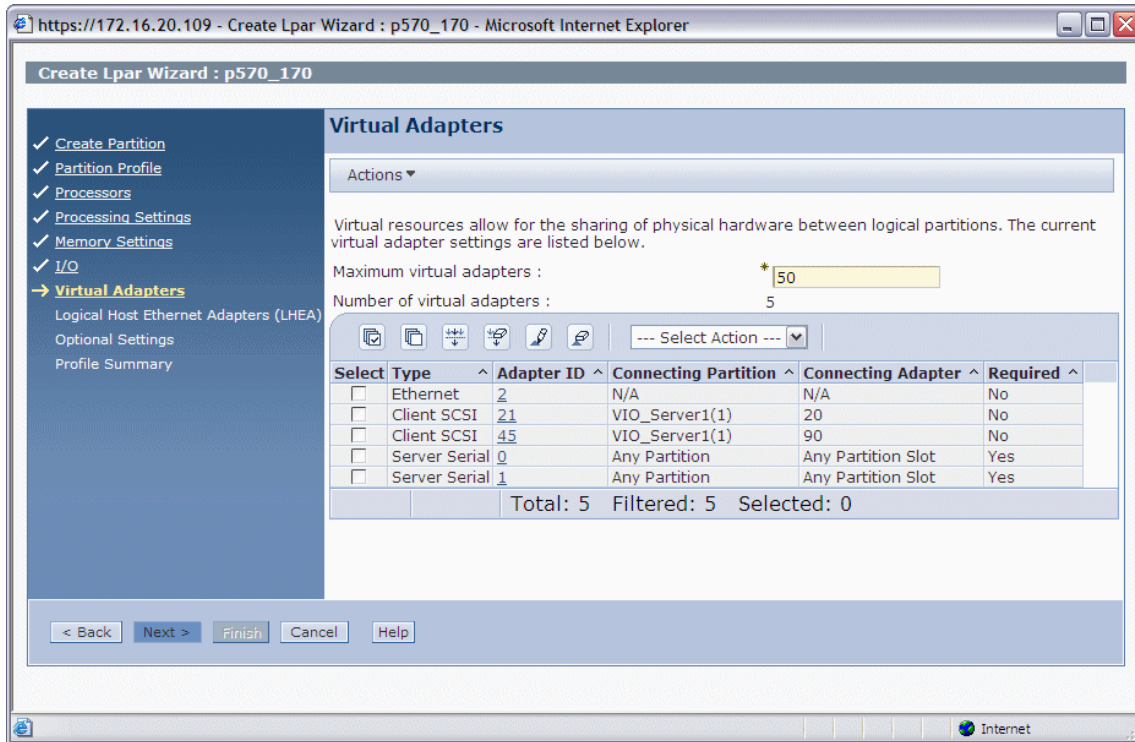

Figure 13-7 List of created virtual adapters
8. The list of created virtual adapters is shown in Figure 13-7. Click **Next** to continue.